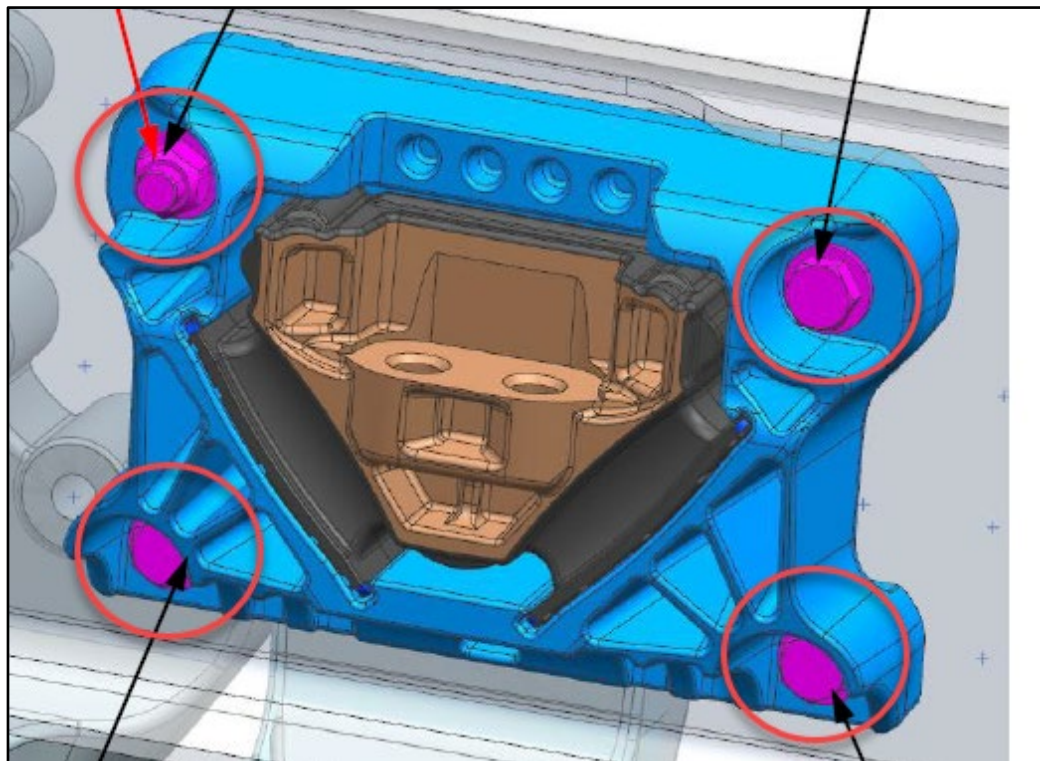

Fig. 2, Four Bolts with Torque Tool Installed.
7. Using a 15/16" wrench and a 15/16" socket, torque all four engine mount bolts on each/both left and right rear engine mount to 173 lbf·ft (235 N·m). See **Fig. 2** for correct bolts.
4. From underneath, use a 15/16" wrench and a 15/16" socket, torque all four engine mount bolts on each rear engine mount to 173 lbf·ft (235 N·m). See **Fig. 2** for correct bolts.